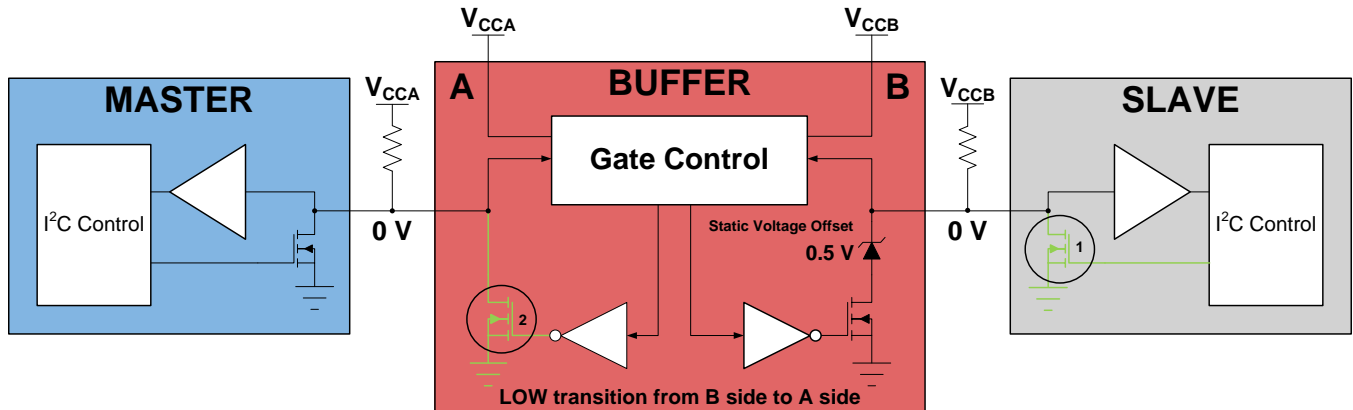

Figure 14. An example of a logic level low being propagated from the B side to the A side of the buffer.
Now consider when the slave pulls low, see Figure 14. The slave pulldown FET in turned on (1) and generates a low for the B side. That gets relayed across buffer to the A side's pull down FET which gets turn on (2) generating a low on the A side.